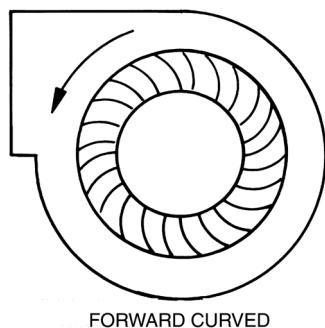

Fig. 64 — Fan Wheel Rotation
1. Check direction of rotation (see Fig. 64). Arrow on drive side of fan housing indicates correct direction of rotation.